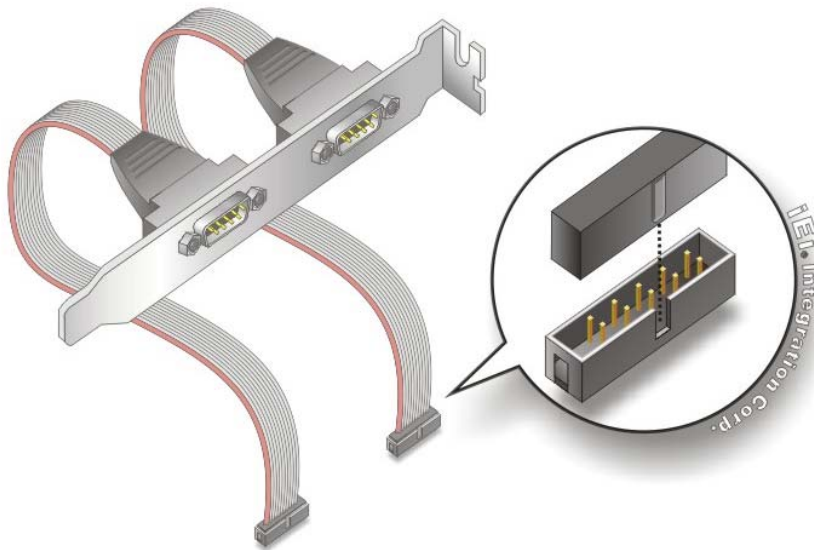

Figure 4-10: Dual RS-232 Cable Installation
Step 2: Insert the cable connectors. Insert one connector into each serial port box headers (**Figure 4-10**). A key on the front of the cable connectors ensures the connector can only be installed in one direction.